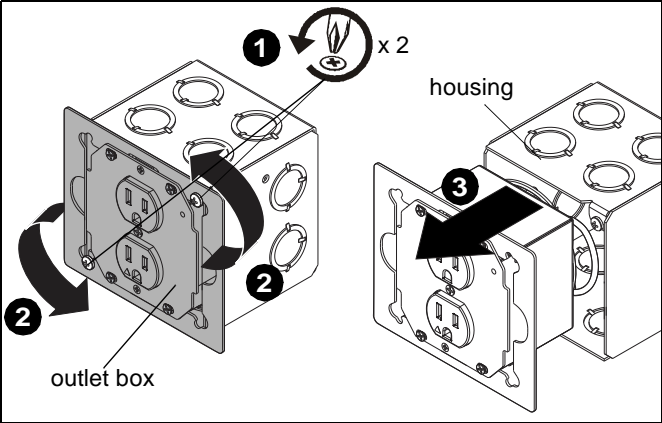

Figure 2
- 1. Loosen two Phillips head screws holding EGX-SF2 outlet box to outer housing. (See Figure 2)
- 2. Rotate outlet box counter-clockwise until it is free to be removed from housing. (See Figure 2)
- 3. Remove outlet box from housing. (See Figure 2)